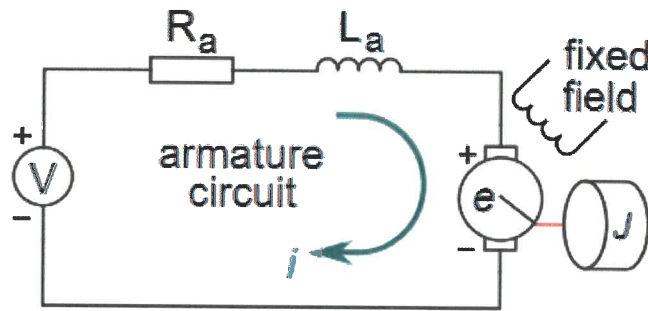

Figure 1
Figure 1 shown the electric circuit of the DC motors armature. This contains the electrical resistance term (R_a), inductance (L_a), and the back EMF (e). Rotor mechanical terms are the motor torque (T), and rotor inertia (J).